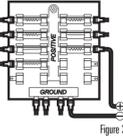

Figure 3
- 1a. If a fuse terminal is available, use crimp-on type electrical connectors (not included) that match the terminal on the fuse panel. Attach the black wire to ground (-), and the red wire to positive (+) 12 VDC power (Figure 3). Install a 1 amp fuse (not included) for protection of the unit. Humminbird® is not responsible for over-voltage of over-current failures.